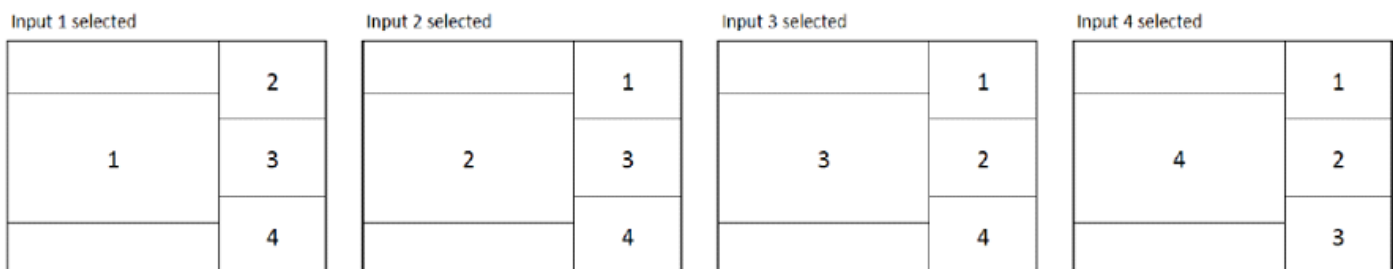

Figure 7-5
- Press FULL to select into PiP and use 1 (Down) or 2 (UP) button to highlight and select the desired input number to be set as the largest display.
- Press FULL. The other inputs will be displayed on the right side starting with the lowest number input at the top to the highest number input towards the bottom. See Figure 7-5